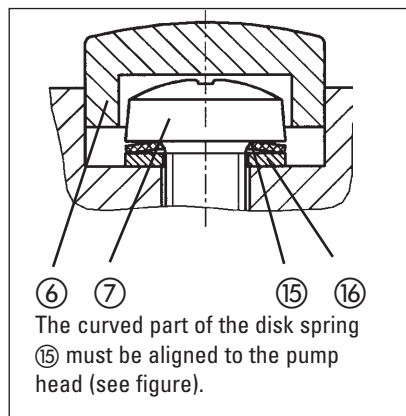

Fig. 9: Orientation of disk spring 15
- ▶ For placement of disk spring ⑮ and washer ⑯ and for orientation of disk spring see fig. 9.
- 12 Install the screw caps ⑥.
- 13 Carry out steps ② to ⑫ for the second pump head.
- 1 Only for pumps N 816.3 KN.18 and N 816.3 KT.18: Put the sealing ⑧ into the head plate ④; push the connecting tube ⑩ into the hole in the head plate ④.
- ▶ It is necessary to ensure that the O-ring ⑨ lies on the end of the connecting tube.
- 2 Place the two pump heads that are joined by the pneumatic connecting tube(s) ⑩ on the housing according to the markings (M).
- ▶ Make sure the cover ⑬ is placed on the pump head and is not jammed. For this, carefully slide a small screw driver between the cover ⑬ and the pump head.
- ▶ If the cover is jammed between the intermediate plate ① and head plate ④, then the pump will not provide the nominal pneumatic performance.
- 3 On both pump heads: Gently tighten the screws ⑤, evenly and diagonally (tightening torque: 3 Nm).
- ▶ The spring washer ⑰ and washer ⑱ under the screws ⑤ are placed and aligned like the disk spring and washer at the screw ⑦ (see fig. 9).